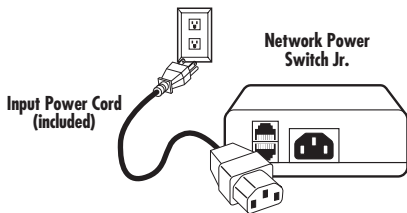

Figure 3-5. Connect the switch to the input power source.
3. Connect the supplied power cord to the connector labeled “AC Input” (on the back of the switch), and connect the other end to your AC source. See Figure 3-5. If a power cord with a different terminating plug is required, be sure it is properly rated and meets all required local electrical standards.